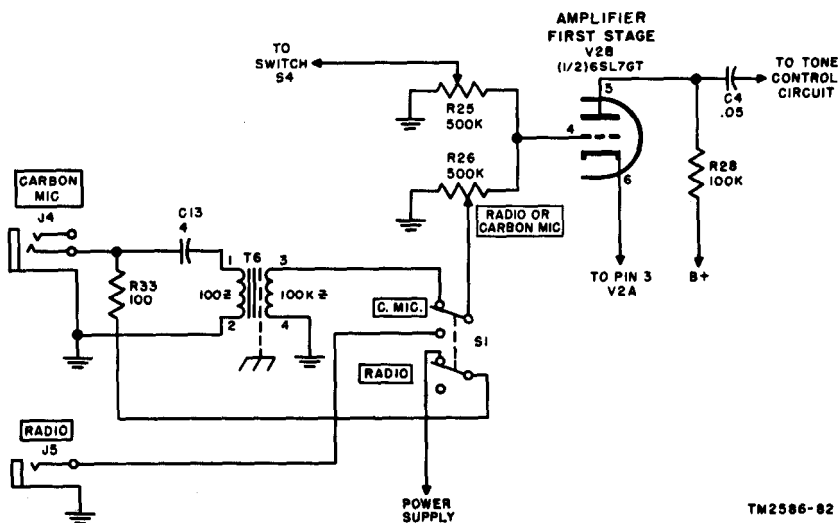
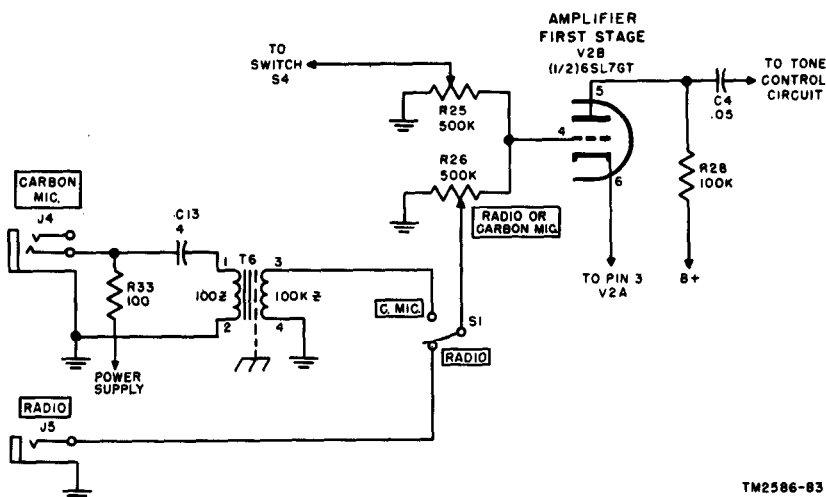

Figure 34. Input circuit for CARBON MIC. and RADIO jacks, on Amplifier AM-20/TIQ-2 AM-20A/TIQ-2, and AM-20B/TIQ-2.
Figure 35. Input circuit for CARBON MIC. and RADIO jacks, on Amplifier AM-20B/TIQ-2 (modified)
c. When a carbon microphone is to be used, the microphone cord must be plugged into the CARBON MIC. jack J4 (figs. 34 and 35). The RADIO-C.MIC. switch S1 must be operated to the C.MIC. position. Dc must be provided to the carbon microphone. This is accomplished through voltage dropping resistor R33 and dc from the power supply. Refer to paragraph 79 for an explanation of the power supply. The dc voltage that is applied to the carbon microphone is also applied to capacitor C13. When a sound wave strikes
d. When a radio is to be used as an input source, the output of the radio must be connected to RADIO jack J5 (fig. 23). RADIO-C.-MIC. switch S1 must be in the RADIO position. On Amplifier AM-20B/TIQ-2 (modified) only (fig. 35), the RADIO-C.MIC. switch disconnects dc from the CARBON MIC. jack J4 and transfers the signal circuit to potentiometer R26. On all other models of the amplifier, the RADIO-C.MIC. switch (fig. 34) will only transfer the signal circuit. Signals from the radio will be applied directly to potentiometer R26, and to the control grid (pin 4) of tube V2B.